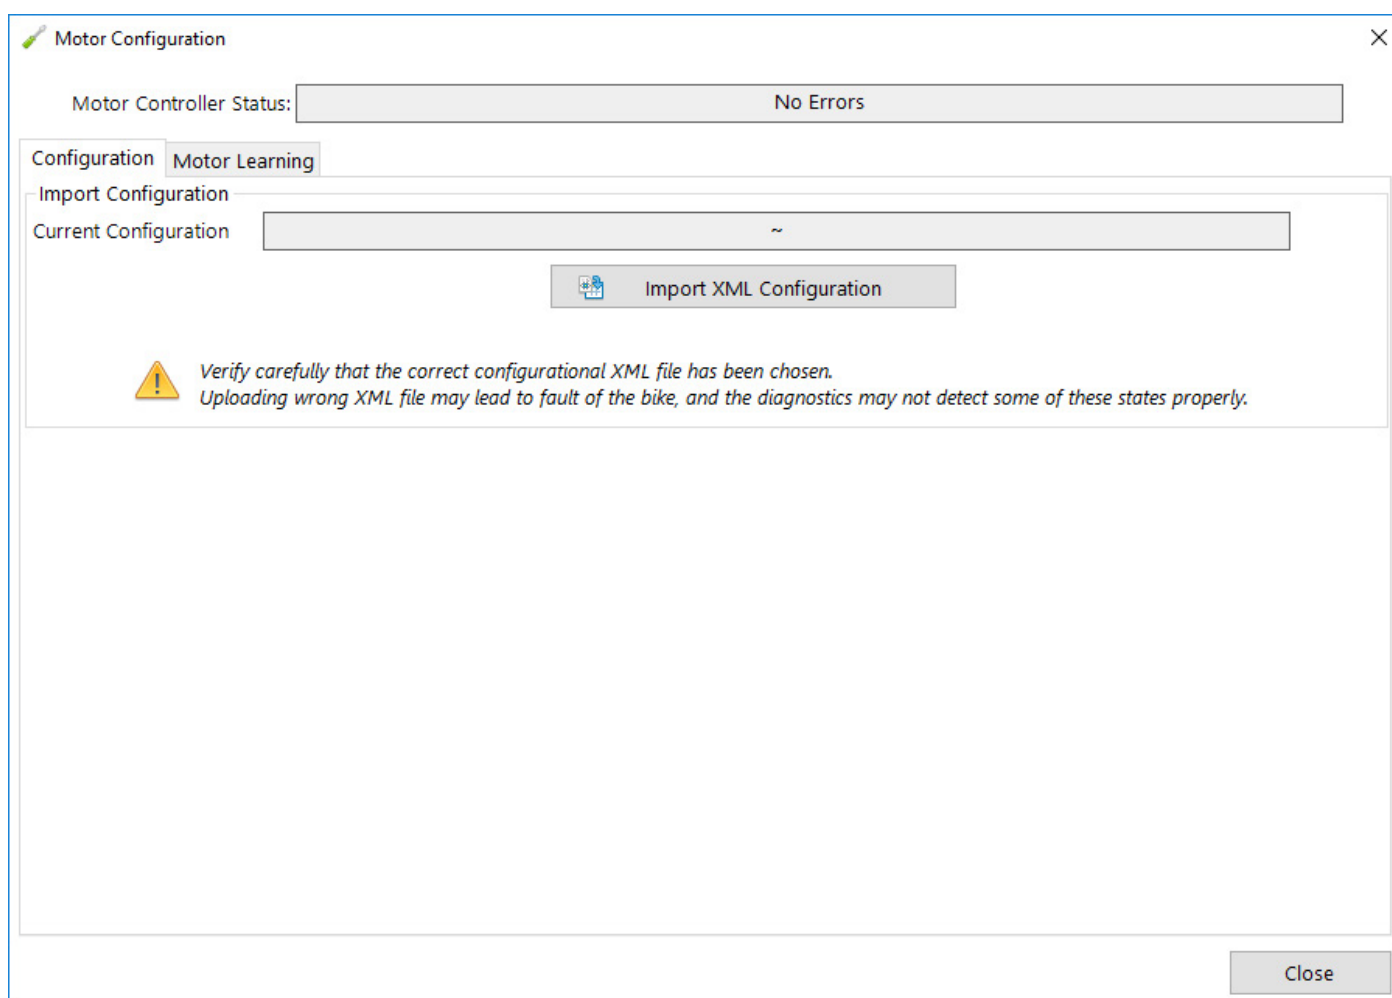

Figure 3.37 Configuration – XML file import
This tab enables checking or manual importing of the XML configuration file (Fig. 3.37). This file contains the bike settings and must be imported for a new control unit, or if it is necessary to restore factory default settings. Only use this function if the computer is offline. Contact the BIKE FUN International service centre if you are unsure of the correct XML configuration file.
1. Click on “Import XML Configuration” (Fig. 3.37).